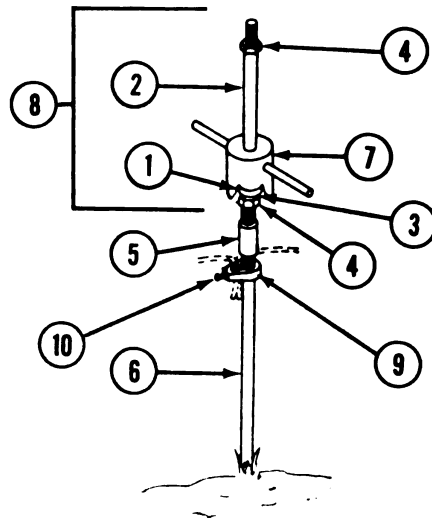

Figure 17-3. Slide Hammer Assembly
(b) Connect slide hammer striker plate (1, Figure 17-3) to bottom of slide hammer rod (2). Tighten to end of threads. Connect